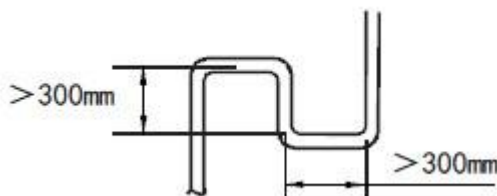

Fig.4-2
3. When the main unit is over 20m from the above places, it is recommended to set a return oil bending every 10m of the air pipe in the main pipe, the return oil bending specification is as Fig. 4-2.
Pipe name	Code (As per the Fig. 4-2)